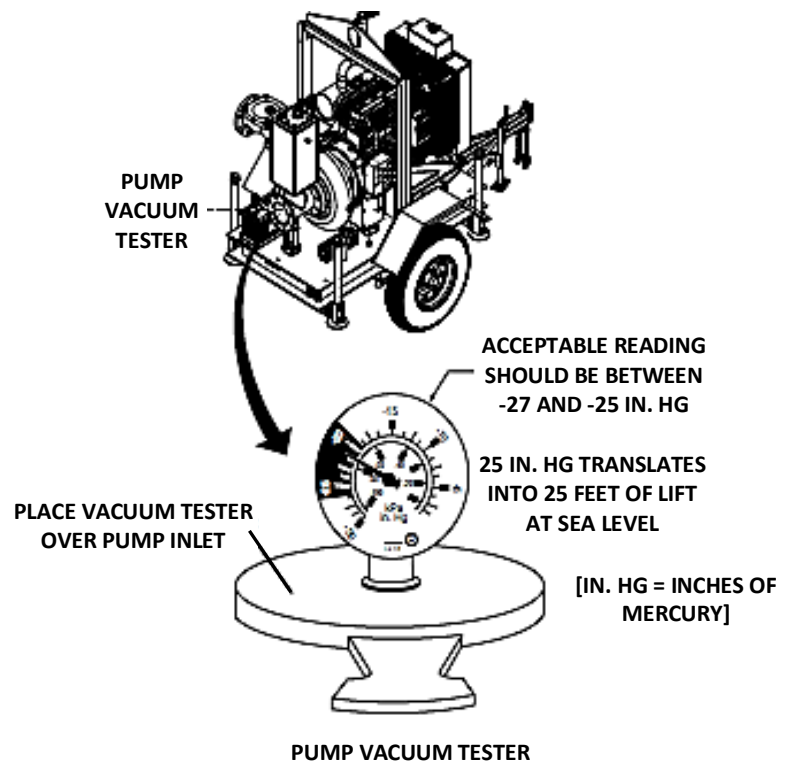

Figure 6-A. Dry Pump Vacuum Test
- Block the suction with a plug or heavy rubber flap as shown in Figure 6-A. An accurate vacuum gauge should be installed in the plug or flap to check the vacuum system performance and pump vacuum gauge.